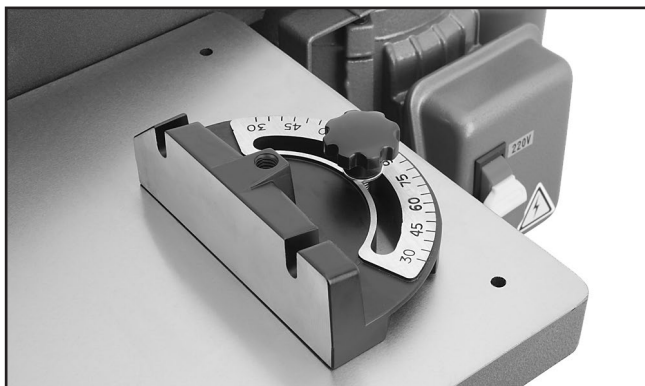

Figure 26. Miter gauge installed.
17. Set the miter body into its pivot hole and secure into place with the plastic lock knob and $\frac{5}{16}$ " flat washer, as shown in **Figure 26**. The miter body should only be used when sanding the ends of workpieces at least 8" long. Do not use it as a back stop.